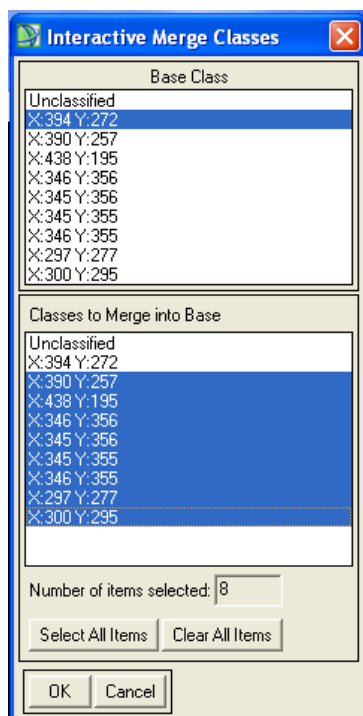

Figure 32. Interactive Merge Classes window
10. In the Interactive Merge Classes window (see Figure 32)